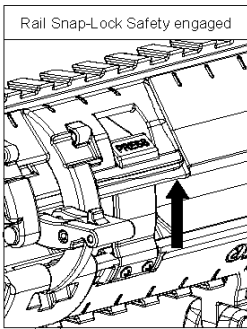

Figure 5.2
- 5.1.2 Close the Upper Rail (#5) until the Rail Snap-Lock Safety(s) (#7) clicks into the Upper Rail (#5) (See Figure 5.2).